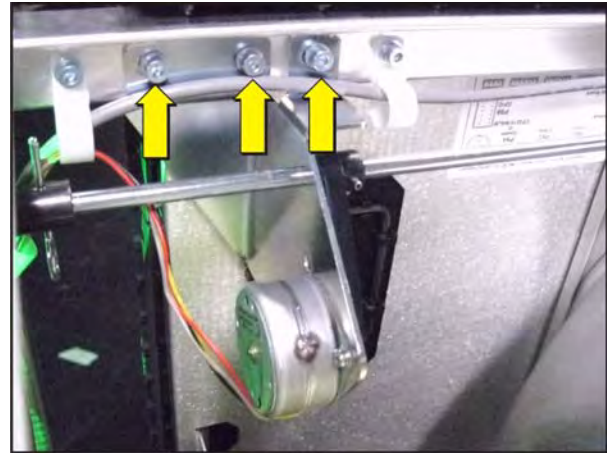

Figure 5-52 Douser Motor
4. Using a 3mm hex key, remove the three screws securing the douser bracket. **(Figure 5-52)**